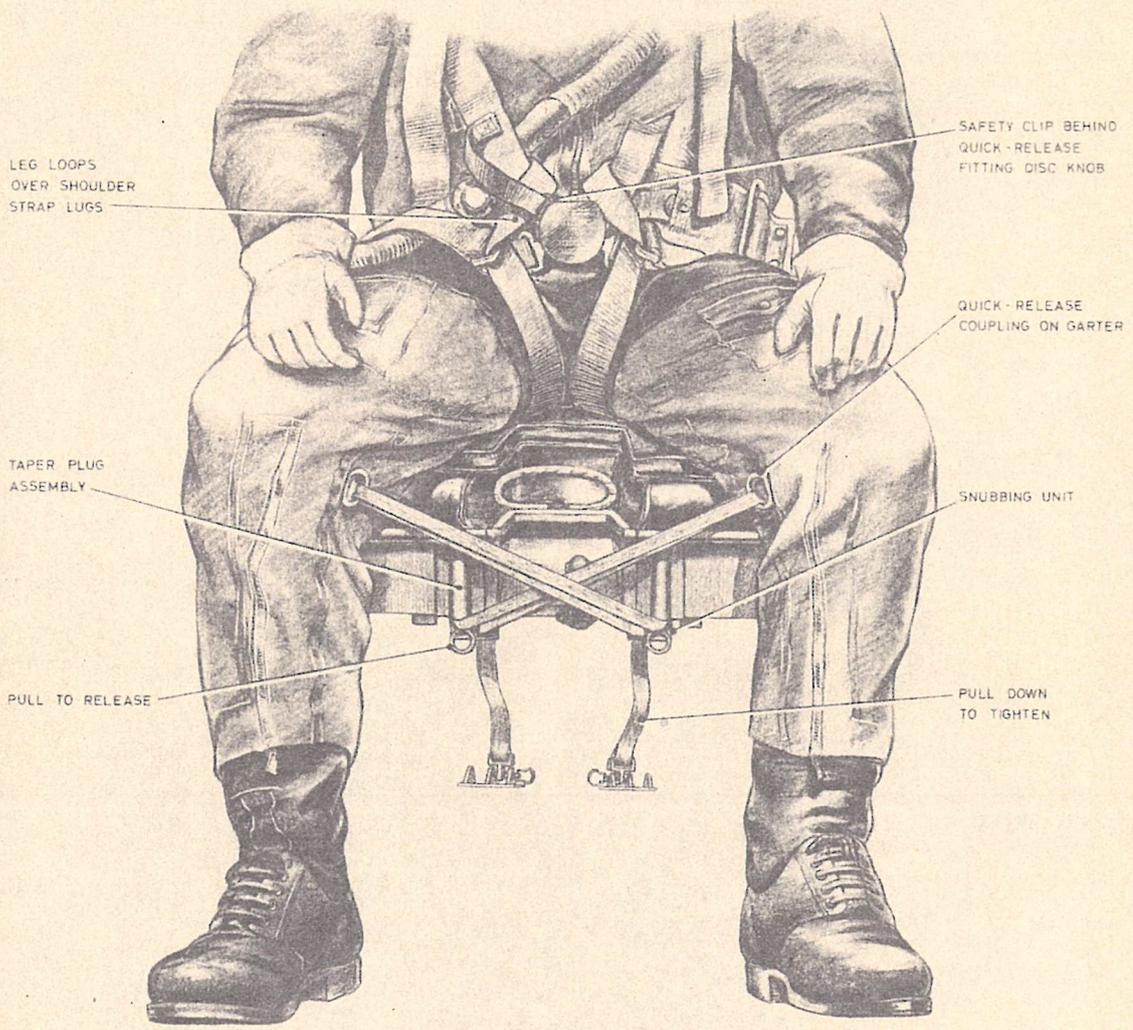
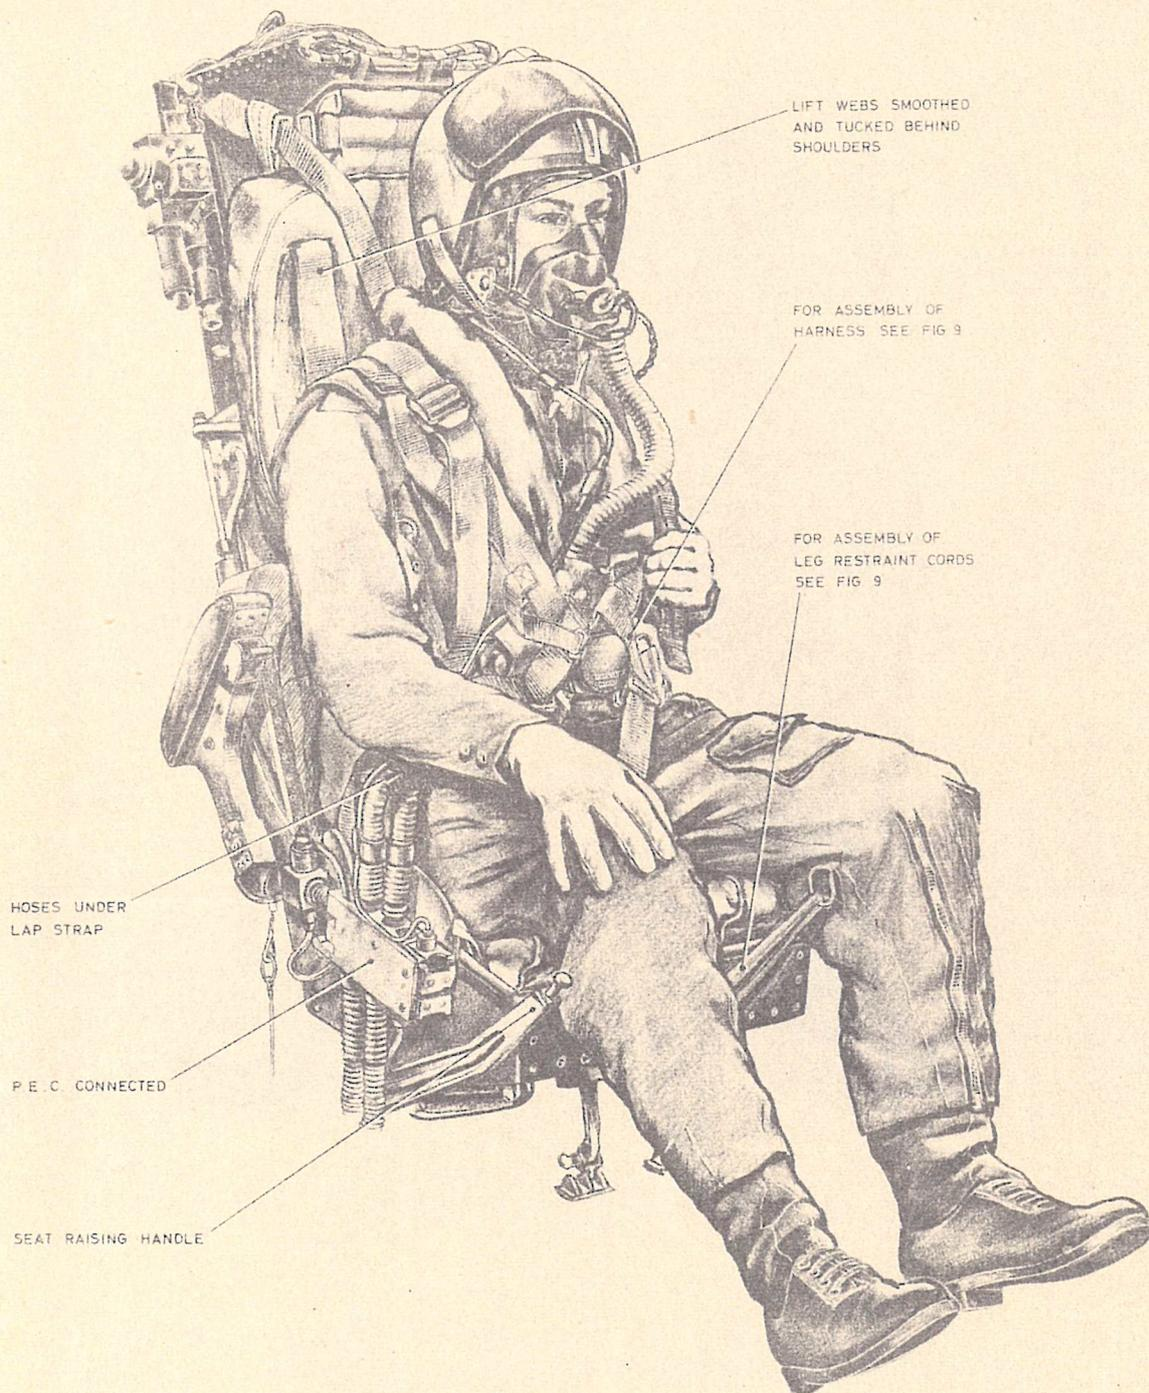
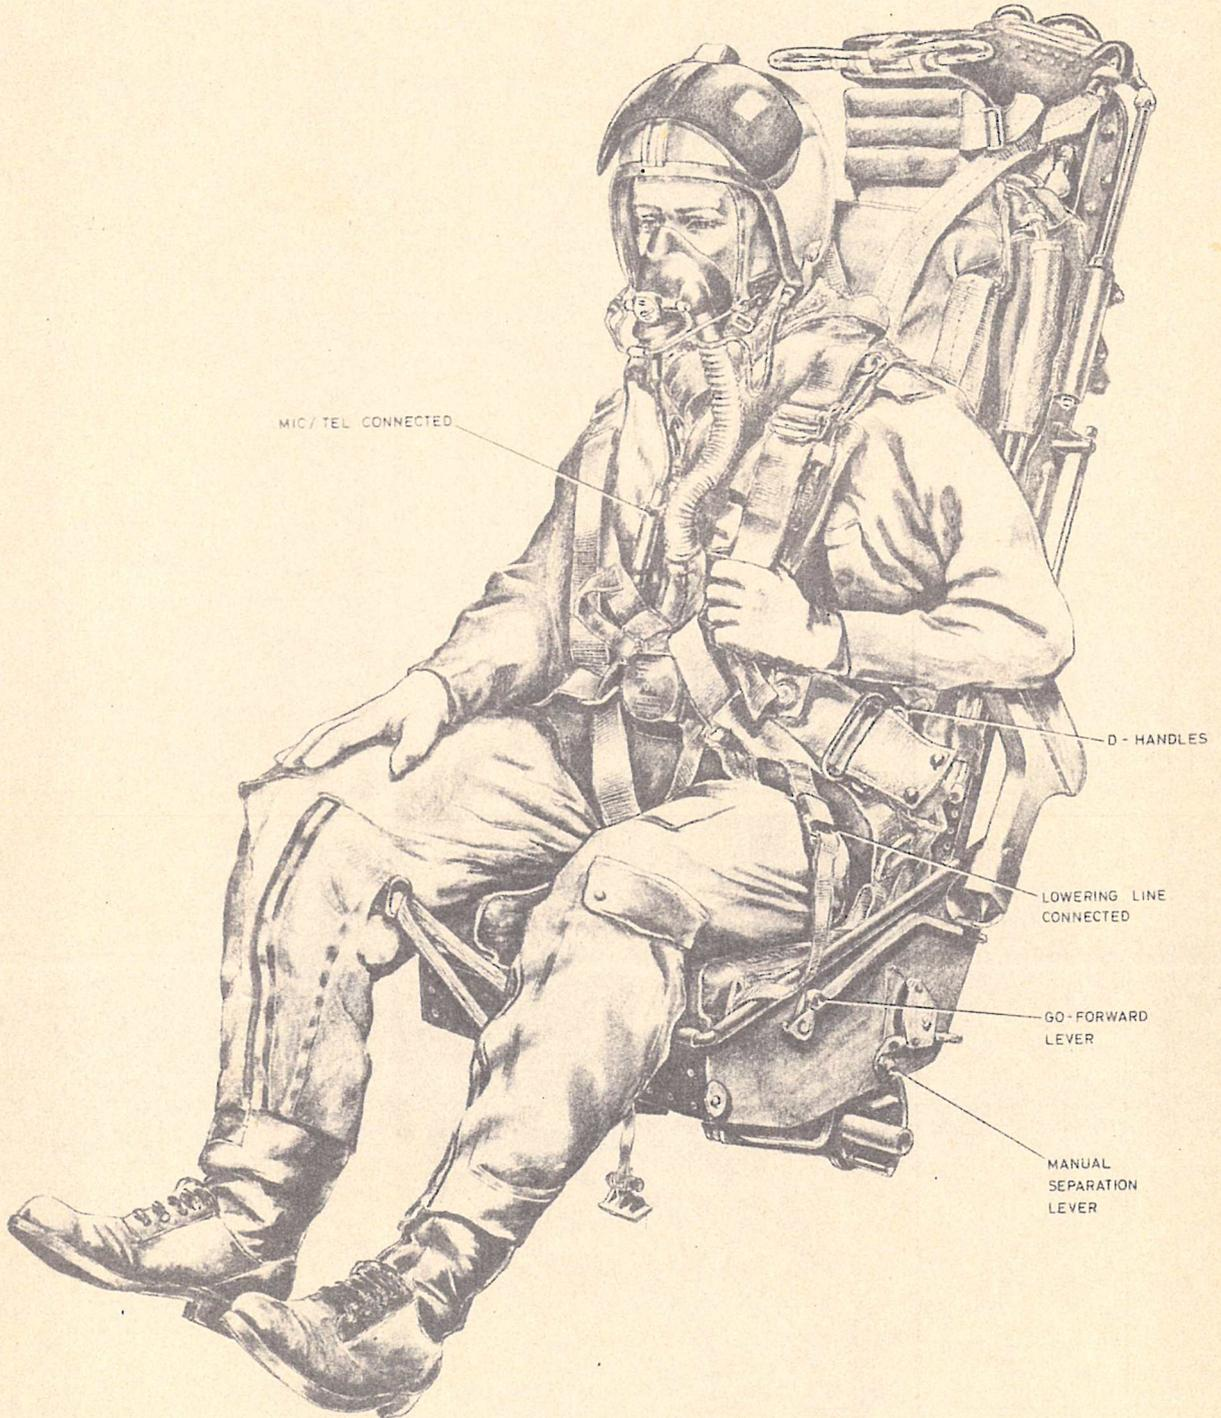

Fig. 9. Assembly of leg restraint cords and harness (Pilot)
Fig. 10. The ejection seat occupied (1)
Fig. 11. The ejection seat occupied (2)
- (7) Thread the port cord through the right garter and back to the port taper socket, crossing the cords. It does not matter which cord is in front, but do not interlace them (fig. 9).
- (8) Pull back any excess of restraint cord through the snubbing units, leaving enough slack for full rudder operation.
- (9) Adjust the height of the seat until a satisfactory position for flying is obtained; ideally with the head positioned centrally against the headrest cushion. Stretch the arms upwards towards the firing handle to ensure that there is no restriction to firing handle access by the flying clothing.
- (10) Connect the survival pack lowering line on the left side to the quick-release coupling on the life jacket. The line is to lie across the left thigh (fig. 11).
- (11) Bring the harness waistbelt across the body. Adjust the quick-release fitting so that it lies centrally with the waistbelt close to the body. For Mk. 23 harness only; draw the leg loops up between the legs and pass the lap straps through the loops.
- (12) Connect the lugs on the lap straps to the quick-release fitting; the hoses to the P.E.C. are to pass under the right lap strap. The back pad will be drawn up by a ground crew member and the lumbar cushion adjusted to suit. Sit well back in the seat. Any slack in the hoses to the P.E.C. is to lie below the right lap strap to allow adequate body movement without straining the hoses (fig. 10).
- (13) Tighten the lap straps. When tightening harness straps pull on the running end with one hand and push the standing end towards the buckle with the other to relieve the tension on the buckle. After the first tightening move the body about inside the harness and then re-tighten, repeating the process until the harness is really tight. It is most important that the lap straps are tight since they provide the principal restraint under all stress conditions.
- (14) Bring the leg loops up between the legs and thread the left one through the metal eye on the left lap strap. Repeat on the right side. If twisted correctly the crutch loops will lie flat on the inside of the thighs.
- (15) Remove the ends of the shoulder straps from the stowed position and arrange them under the life jacket stole. Thread the lugs through the leg loops, then connect them to the quick-release fitting.